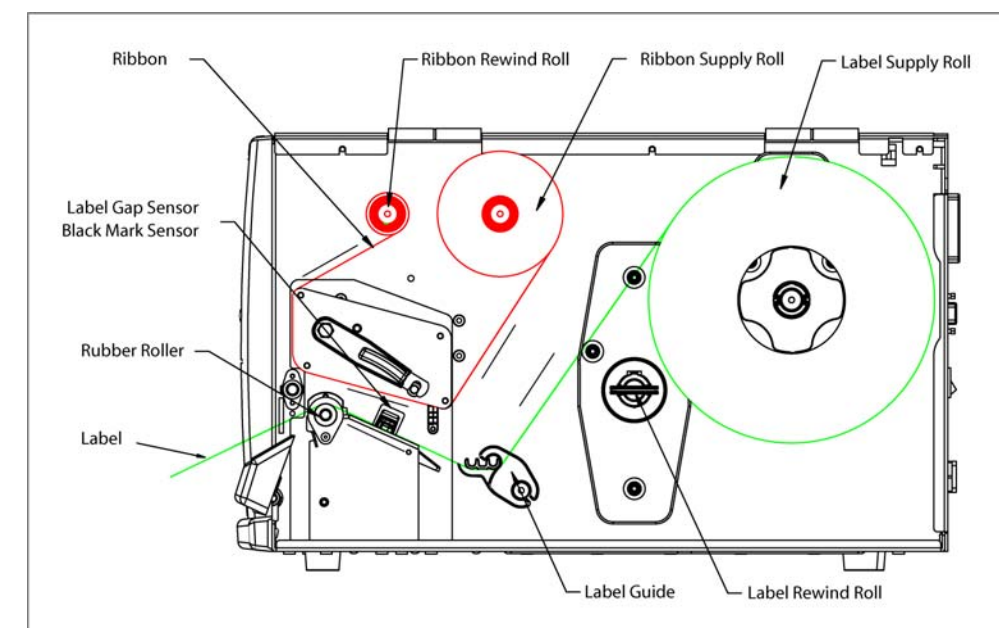

Figure 2. Paper path for batch mode
- b. Feed the label, printing side up, down through the **label guide** as shown in Figure 2.